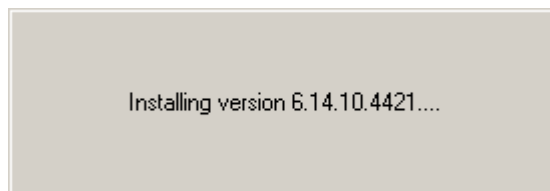

Figure 7-16: Intel® Graphics Media Accelerator Driver Installing Notice
Step 12: Read the license agreement. To accept the terms and conditions stipulated in the license agreement shown, click **Yes** and the installation notice appears (**Figure 7-16**) as the driver is installed.